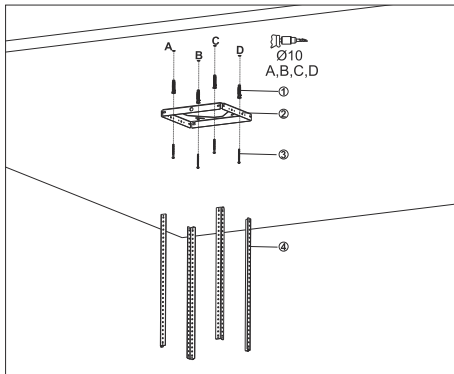

Fig. 11
1. ➔ Drill the surface where product will be installed from the points A, B, C, D with Ø10 mm drill (Fig. 11).
Insert Ø10 mm plastic dowels into the drilled points A,B,C,D (Fig. 11).
Install the Ceiling Connection plate to the ceiling at points A,B,C,D with 5.5x60 screws (Fig. 11).